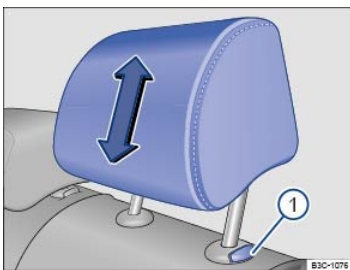
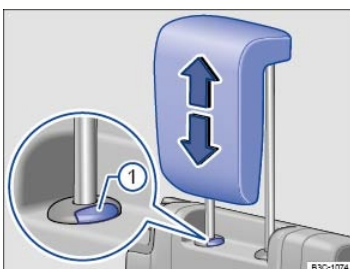

Fig. 84 Adjusting the second row head restraints.
Fig. 85 Adjusting the third row head restraints (if equipped).
- To lower the headrest, first push the headrest down as far as it will go. Then push the button ⇒ Fig. 84① or ⇒ Fig. 85① and push the head restraint down completely.